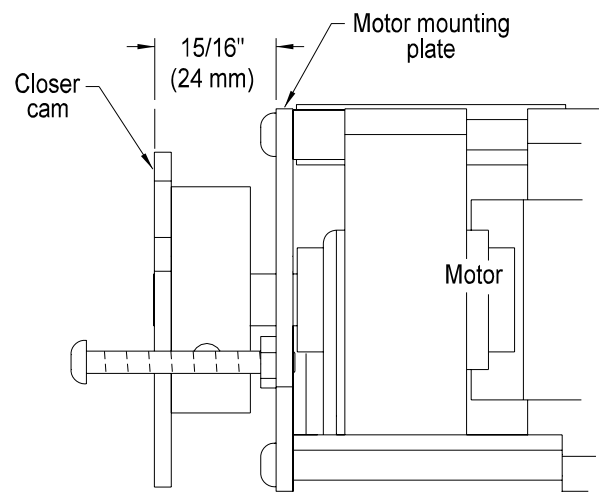

Figure 3.12
1. Set the lateral (side to side) position of the cam assembly so the outside edge of the closer cam measures 15/16" (24mm) from the outside edge of the motor plate (Figure 3.12).